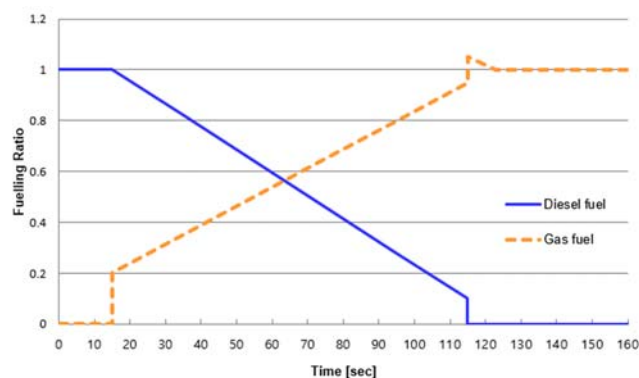

Figure 5.9 Fuel mode changeover from diesel to gas
- ✓ Changeover takes approx. 2 min. including gas leakage test (Refer to Figure 5.9).